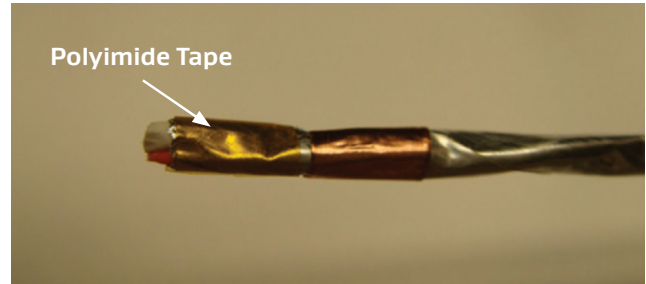

Figure 19: Adding tape to each pair
11. Wrap a 0.5-inch piece of copper tape around each pair directly next to the piece wrapped in step 8 (Figure 19).